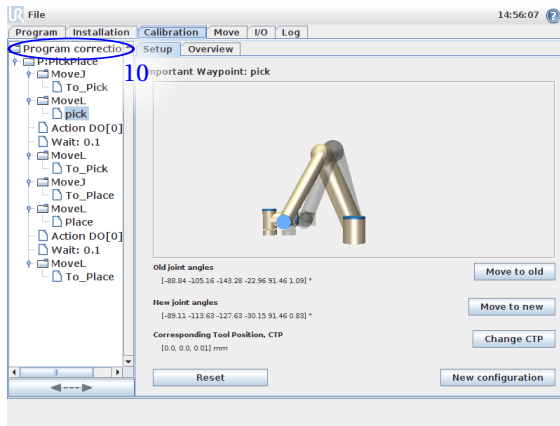

Figure 2.10: Multiple programs can be added by selecting the root of the program tree and repeat from step 2.5.
- (10) If the key-waypoints are distributed over multiple programs, select the root node of the program tree and repeat from step 3, see figure 2.10.